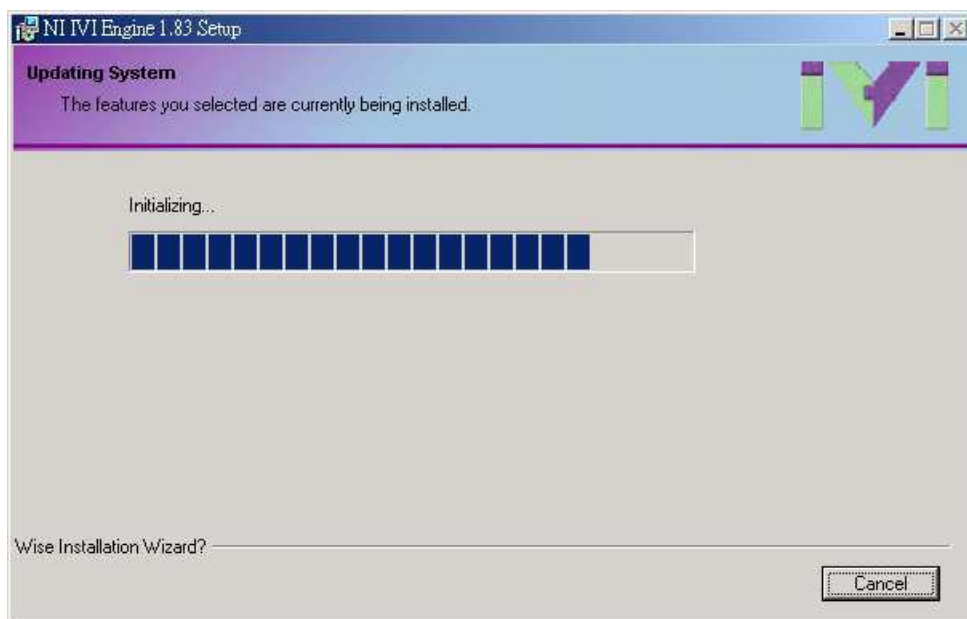

Figure 2-15 NI IVI Installation Progress
9. The installation progress of NI IVI is shown in Figure 2-15 and if any mistake is found, click **Cancel** to stop the installation.